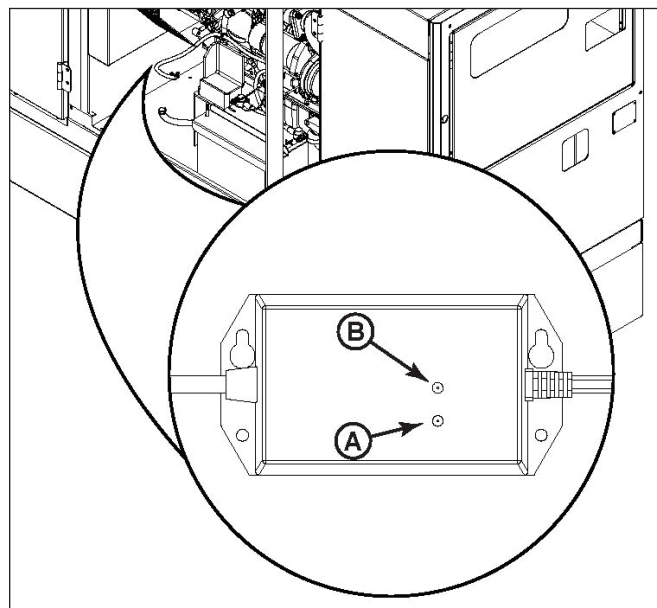

Figure A3
3. The red light (A, Figure A3) on the battery charger module, located in the left front section of the engine compartment (see Figure A3) indicates the battery is charging. The green light (B) indicates full charge. (The battery charger can stay plugged in after the battery reaches full charge without damaging the battery.)